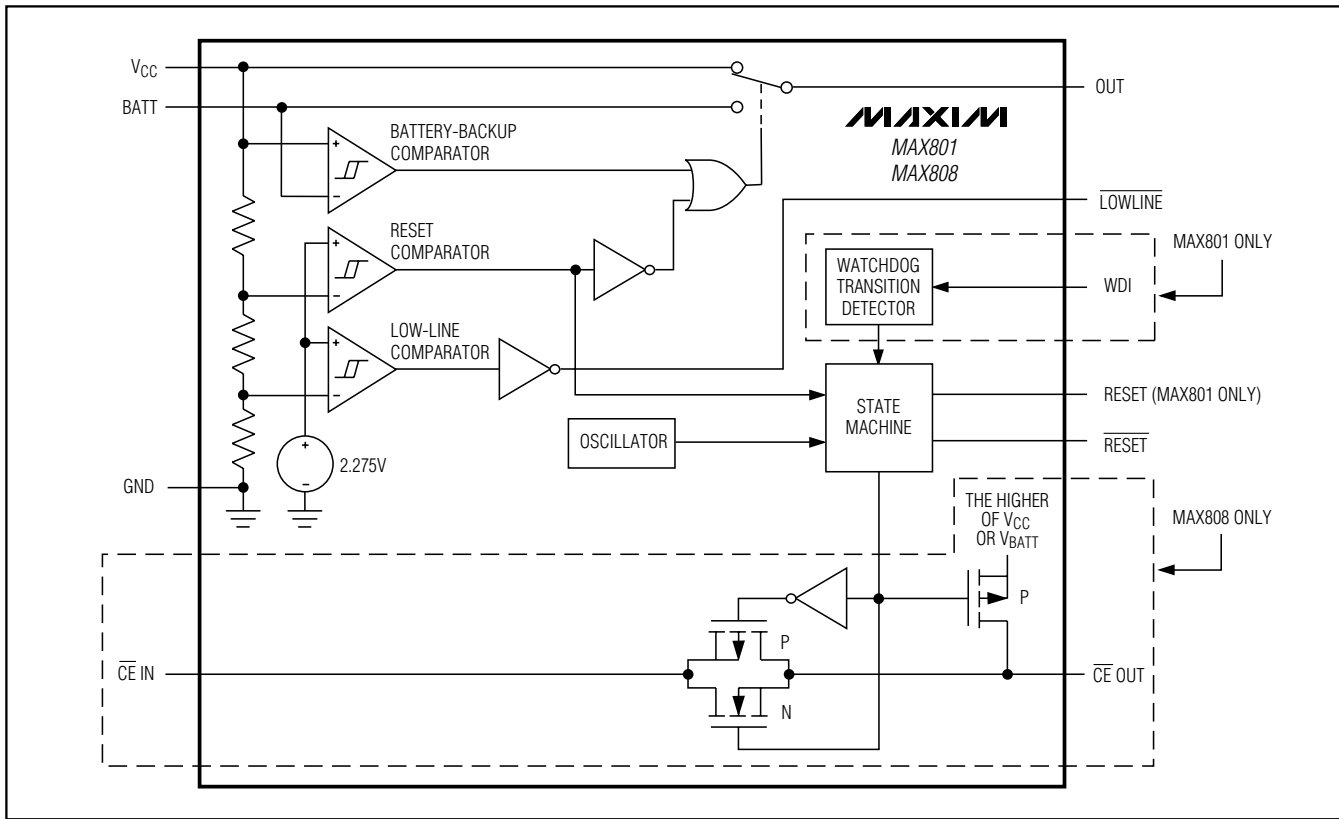

Figure 1. Functional Diagram
The MAX801/MAX808 microprocessor (μP) supervisory circuits provide power-supply monitoring and backup-battery switchover in μP systems. The MAX801 also provides program-execution watchdog functions (Figure 1). Use of BiCMOS technology results in an improved, 1.5% reset-threshold precision while keeping supply currents typically at $68\mu\text{A}$ ($48\mu\text{A}$ for the MAX808). The MAX801/MAX808 are intended for battery-powered applications that require high reset-threshold precision, allowing a wide power-supply operating range while preventing the system from operating below its specified voltage range.
The MAX808 provides internal gating of chip-enable (CE) signals to prevent erroneous data from corrupting CMOS RAM in the event of a power failure. During normal operation, the CE gate is enabled and passes all CE transitions. When reset is asserted, this path becomes disabled, preventing erroneous data from corrupting the CMOS RAM. The MAX808 uses a series transmission gate from the chip-enable input ($\overline{\text{CE}}\text{ IN}$) to the chip-enable output ($\overline{\text{CE}}\text{ OUT}$) (Figure 1). The 8ns max chip-enable propagation from $\overline{\text{CE}}\text{ IN}$ to $\overline{\text{CE}}\text{ OUT}$ enables the MAX808 to be used with most μP s.